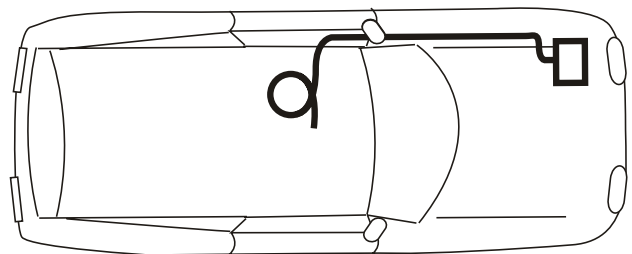

Figure 12-2
- 3. Run the vehicle harness under and, when possible, through the vehicle back to the rear cargo area/trunk,** gaining entry into the vehicle through the firewall. *[Figure 12-2]*